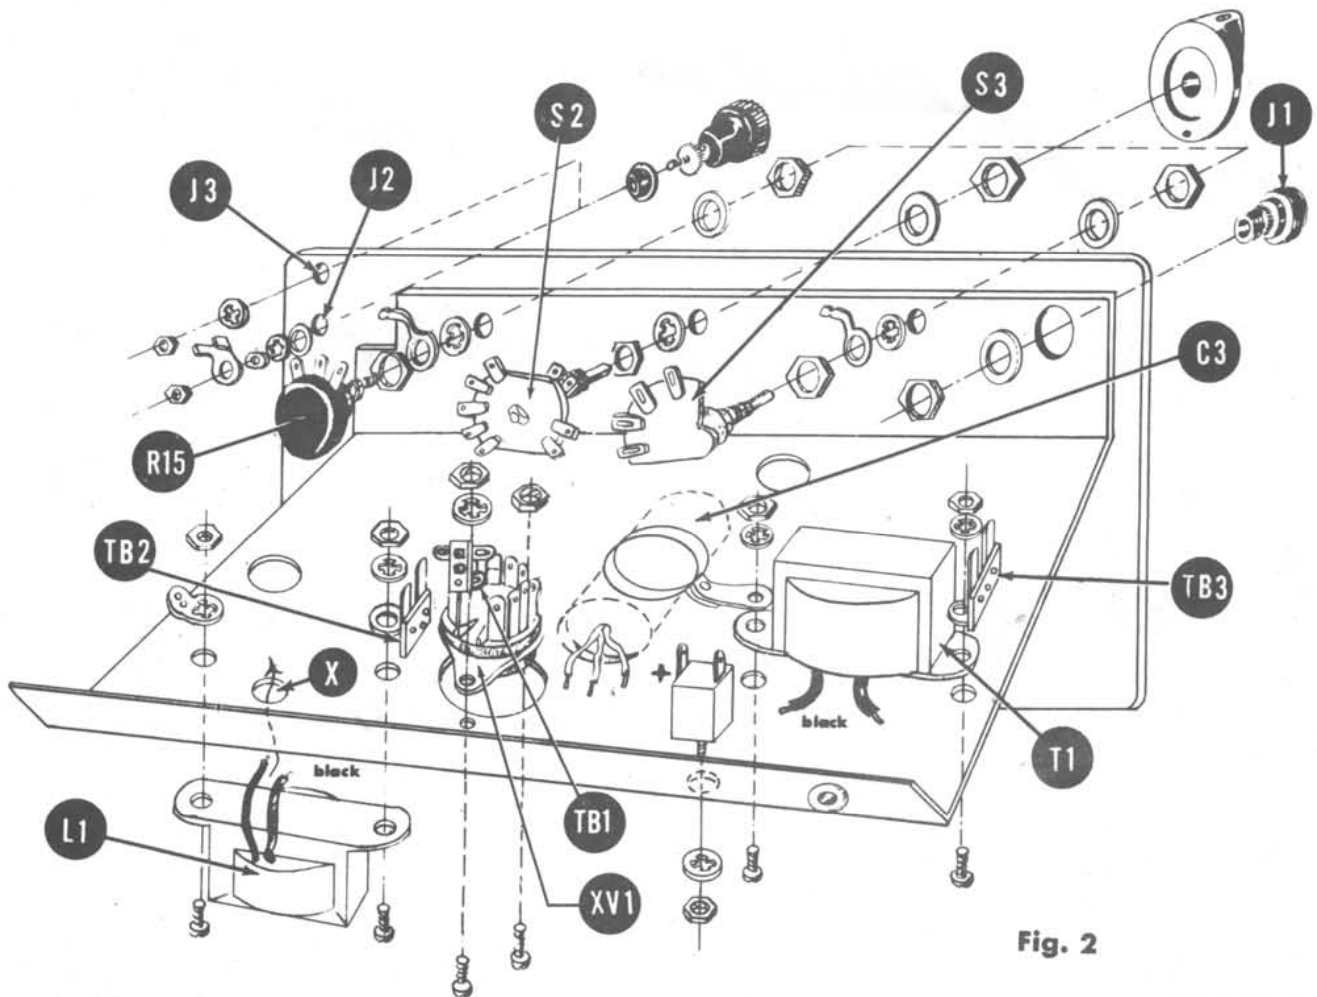

Fig. 2
- () Fig. 2. Mount the power transformer T1 to the chassis. Along with it mount the 2X20 electrolytic capacitor C3 and the 1 post right w/gnd terminal strip TB3. Use 2 #6-32 X 1/4 screws, 2 #6 lock washers, and 2 #6 hex nuts.
- () Fig. 2. Mount the selenium rectifier CR1, positioning it with the positive terminal as shown. Use 1 #6 lock washer, and 1 #6 hex nut.
- () Fig. 2. Mount the 9-pin miniature socket XV1, positioning it with the blank (no pin) sector as shown. Along with it mount terminal strip TB1 (double lug - not grounded). Use 2 #4-40 X 1/4 screws, 2 #4-40 hex nuts, 1 lock washer, and 1 ground lug.
- () Fig. 2. Mount a.f. resonating choke L1 to the chassis, first passing the 2 black leads through hole "X". Along with it mount the 2 post terminal strip TB2. Use 2 #6-32 X 1/4 screws, 2 #6-32 hex nuts, 1 #6 lock washer, and 1 ground lug.
- () Fig. 2. Mount the male amphenol connector J1 (RF OUT) to panel and chassis using the hardware shown.
- () Fig. 2. Mount the 250K Ω AF/MOD OUT potentiometer R15 to panel and chassis, using 2 - 3/8 hex nuts, 1 - 3/8 lock washer, 1 ground lug, and 1 panel washer. The inside hex nut should be used as a back-up nut so that the potentiometer bushing does not extend past the outside nut.
- () Fig. 2. Mount the RF COARSE switch S3 to panel and chassis using the same hardware as above including the ground lug. Note the positioning of S3 in the drawing and observe it in the mounting. Do not tighten outside hex nut finally as yet.
- () Fig. 2. Mount the SIGNAL SEL. switch S2 to panel and chassis using the same hardware as above but no ground lug. Note the position of S2 in the drawing and observe it in the mounting. Here also do not tighten the outside hex nut
- () Fig. 2. Place the panel and chassis on its side. Use a pair of pliers to turn the shafts of both the SIGNAL SEL. switch S2 and the RF COARSE switch S3 to the furthest counter-clockwise position. Next orient switch S2 so that the flat on the shaft faces away from the POWER OFF position and tighten the panel nut finally. Now orient switch S3 so that the flat on the shaft faces away from the LO position and then tighten the S3 panel nut finally. The assembly of panel to chassis is now completed.
- () Fig. 2. Mount the AF IN/OUT binding posts J2 and J3 on the panel. Note that J2 is insulated from the panel and that J3 is not insulated. Use 1 #8 fibre shoulder washer (for insulation), 1 #8 fibre flat washer, 1 #8 lock washer, 1 #8 lug, and 2 #8 hex nuts to mount J2 and the same hardware less the fibre flat washer and the lug to mount J3.
- () Fig. 2. Install the 3/8" rubber grommet in the hole provided in the rear chassis apron. Squeeze the grommet into oval shape to start it in the hole and then work it in completely with a small screwdriver.